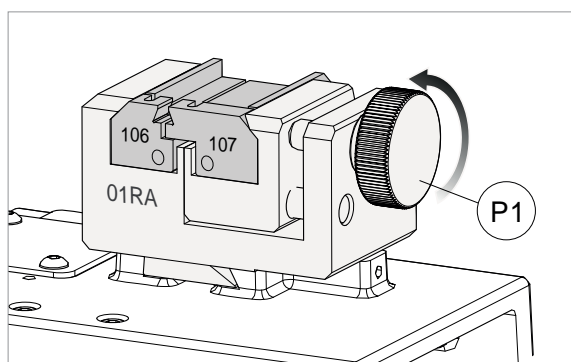

Fig. 42
- 2) Loosen the knob (P1) by a couple of turns (Fig. 42).